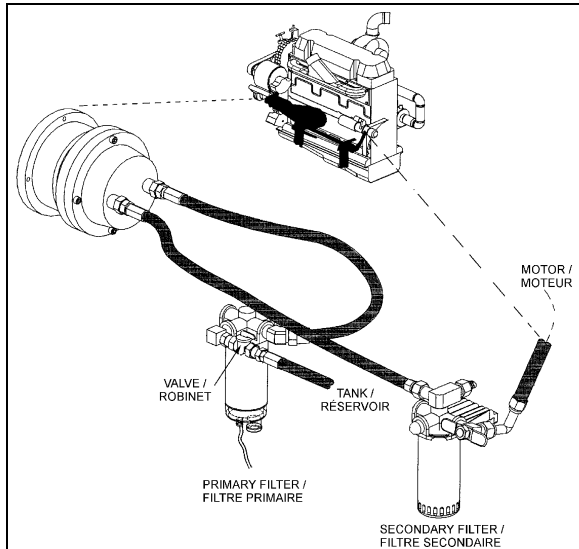

FIGURE 1 : PRIMARY FUEL FILTER SHUT-OFF VALVE
1. Close the manual shut-off valve located under the air compressor at the inlet side of the primary fuel filter (figure 1) or if so equipped, close the manual shut-off valve on the optional Fuel Pro 382 diesel filter located in the engine R.H. side compartment.